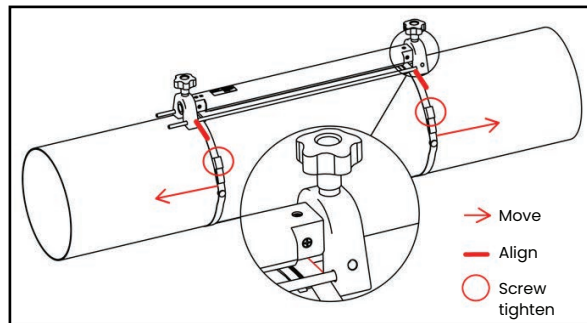

Figure 11: 2 Traverse Installation with 1 Clamp-on Fixture
- c. Hold the fixture against the pipe and move the mounting straps onto the fixture. Then, tighten the screws on the straps, and verify that the straps remain in place on the fixture (see *Figure 11 below*).